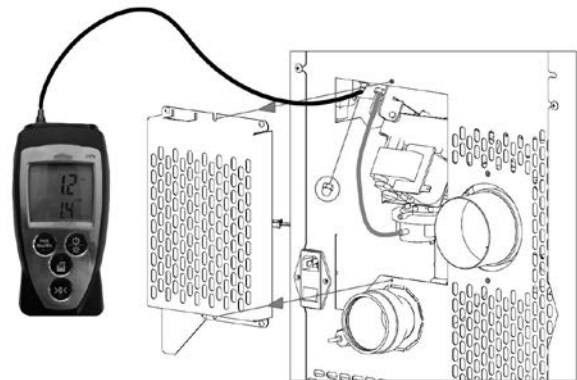

Fig. 36 - Digital pressure switch connection
- Connect a digital pressure switch with a tube to detect the depression (see Fig. 36).